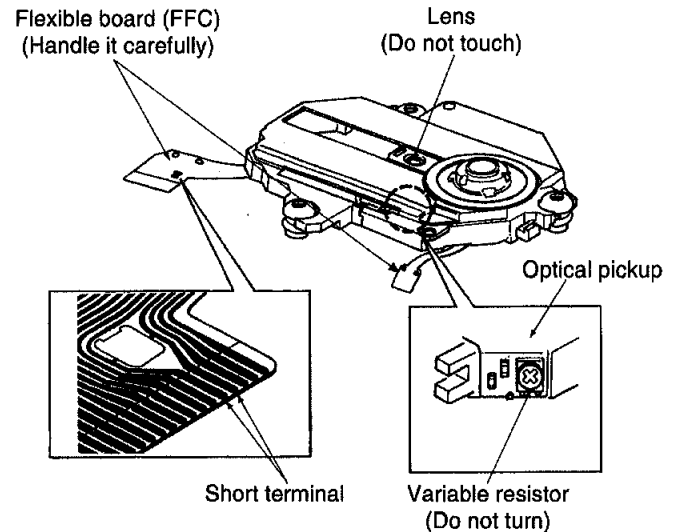

Fig. 1
2. The short land between the No. 5 (GND) and No. 4 (LD) pins on the flexible board is shorted with a solder build-up to prevent damage to the laser diode. (As shown in Fig. 1.) To connect to the PC board, be sure to open by removing the solder build-up, and finish the work quickly.
4. Do not turn the variable resistor (laser power adjustment). It has already been adjusted. (As shown in Fig. 1.)